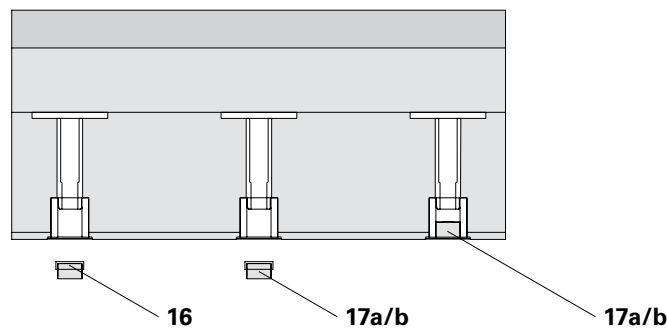

Fig. A5.01
2. Mix adhesive (16) according to the manufacturer's instructions.
5. Remove adhesive residue with a spatula. (Fig. A5.01)